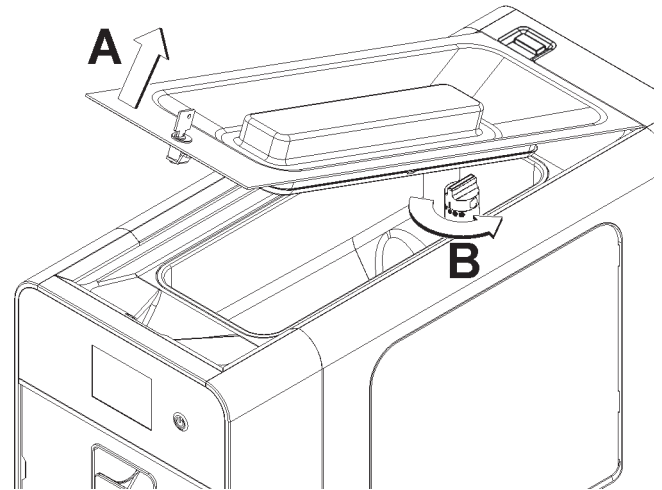

**figure 6**
**4** Turn the carburetor fully clockwise to stop the mix entering the cylinder. (see figure 6)